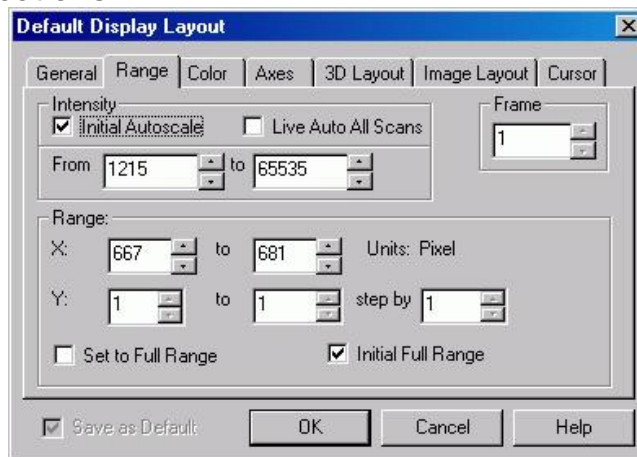

Figure 101. Range tab page
2. Click on the **Range** tab to move the Range tab page (Figure 101) to the front. **Initial Autoscale** and **Set to Full Range** should be selected. The Frame number should be "1."